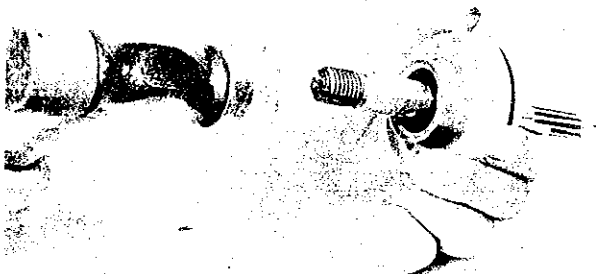

Figure 10. Tap out propeller shaft.
- K. While holding the cover assembly, use a soft hammer to tap out the propeller shaft assembly (Figure 10).